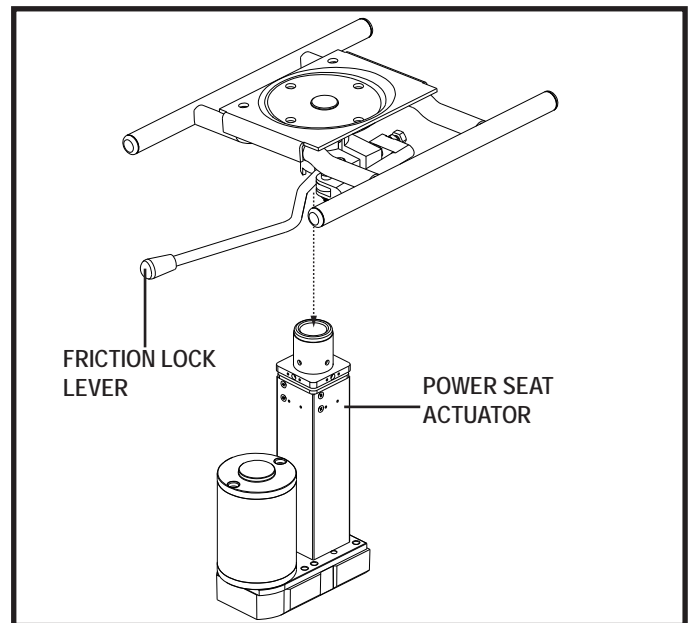

Figure 10. Power Seat Actuator
1. Align the post on the bottom of the power seat base over the hole in the power seat actuator. **See figure 10.**